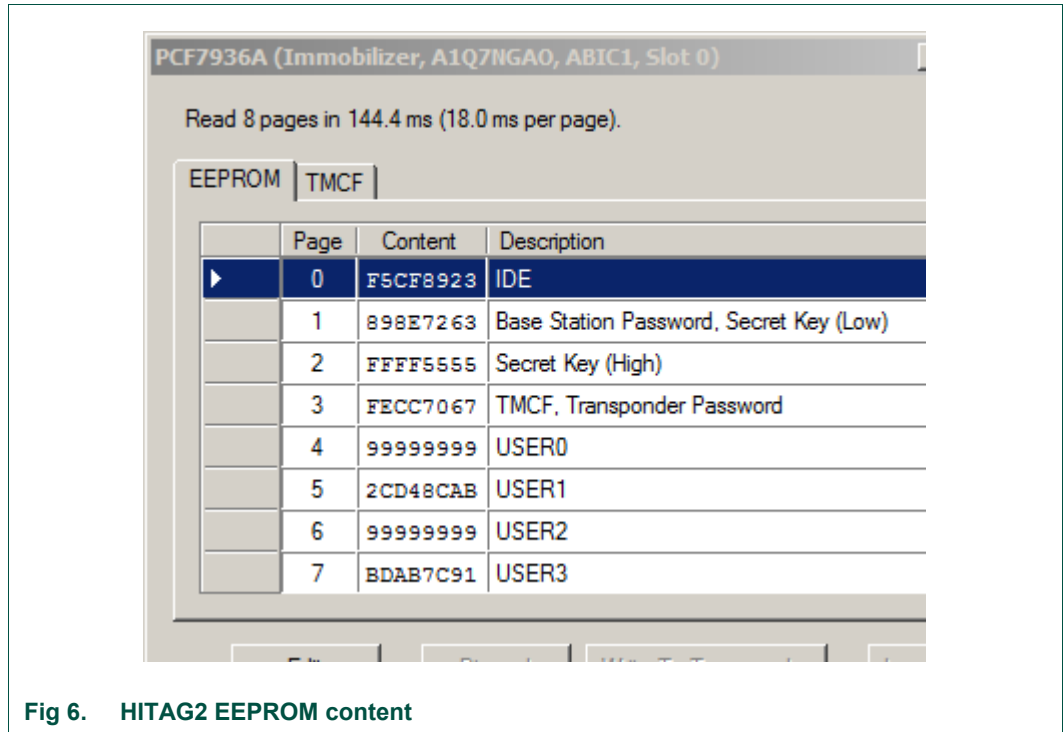

Fig 6. HITAG2 EEPROM content
- Click the EEPROM... button to open the memory window and see the content (Fig 6).